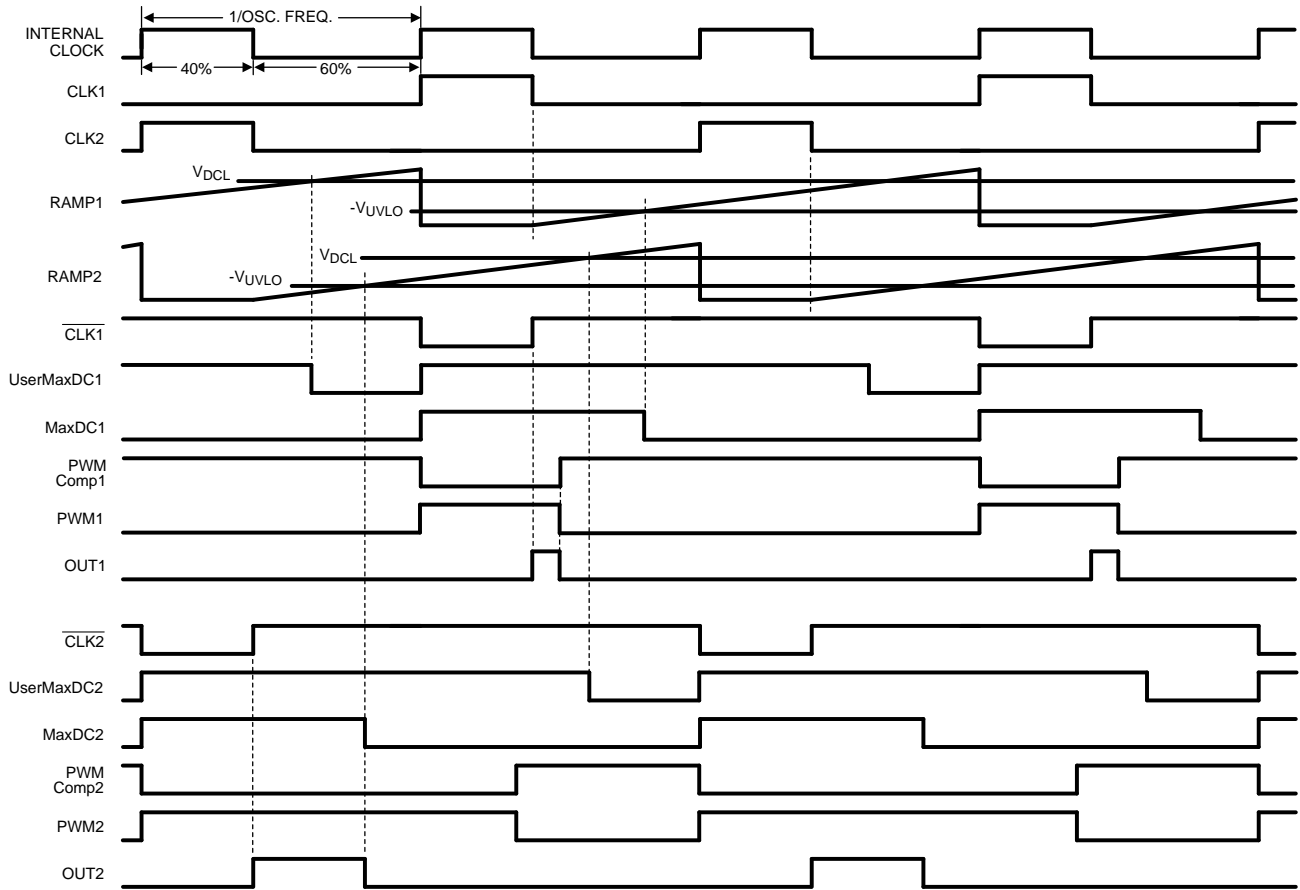

Figure 4. Internal Timing Diagram
RT is the oscillator frequency programming resistor connected to the RT/SYNC pin. The value of the RDCL resistor must be calculated after the RT resistor is selected. See Figure 12. Referring to the block diagrams of Figure 3, and Figure 4, the voltage at the DCL pin (VDCL) is compared to the Ramp1 and Ramp2 signals, creating the UserMaxDC1 and UserMaxDC2 timing signals. These signals are provided to the two 4-input AND gates to limit the PWM duty cycle of both channels.
**Line Voltage Maximum Duty Cycle.** The voltage at the UVLO pin, normally proportional to the voltage at VPWR, further limits the maximum duty cycle at high input voltages. Referring to Figure 13, when the UVLO pin is below 1.25V, the outputs are disabled. At UVLO = 1.25V the maximum allowed duty cycle is 80% (or less if limited by the DCL resistor). As the UVLO pin voltage increases with VPWR, the maximum duty cycle decreases, reaching a minimum of 10% at  $\approx 4.5V$ . Referring to Figure 3 and Figure 4, the UVLO voltage, after passing through an inverting gain stage, is compared to the Ramp1 and Ramp2 signals generated by the oscillator. The output of these comparators are the MaxDC1 and MaxDC2 timing signals. These signals are provided to the two 4-input AND gates which limit the PWM pulses delivered to the output drivers.
**Resulting Output Duty Cycle.** The controller duty cycle is determined by the four signals into the 4-input AND gates in Figure 3 (UserMaxDC, MaxDC, PWM and CLK). The output driver pulsewidth is equal to the least of these four pulses. Whichever input of the AND gate transitions high-to-low first terminates the output driver's on-time. For example, in Figure 4, the OUT1 driver's on-time is set by PWM Comparator #1. The on-time for OUT2 is limited by the UVLO pin voltage (determined by VPWR) even though the PWM Comparator #2 is seeking a higher duty cycle.